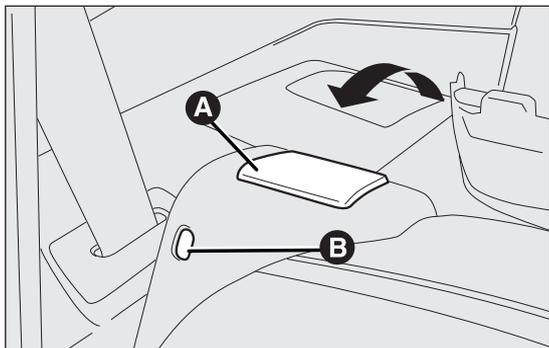

fig. 72
- for versions with split rear seat: lift backrest retainer lever A fig. 72 and fold the backrest forwards to obtain a flat loading area. When you lift the lever, you will see a red band B fig. 72.